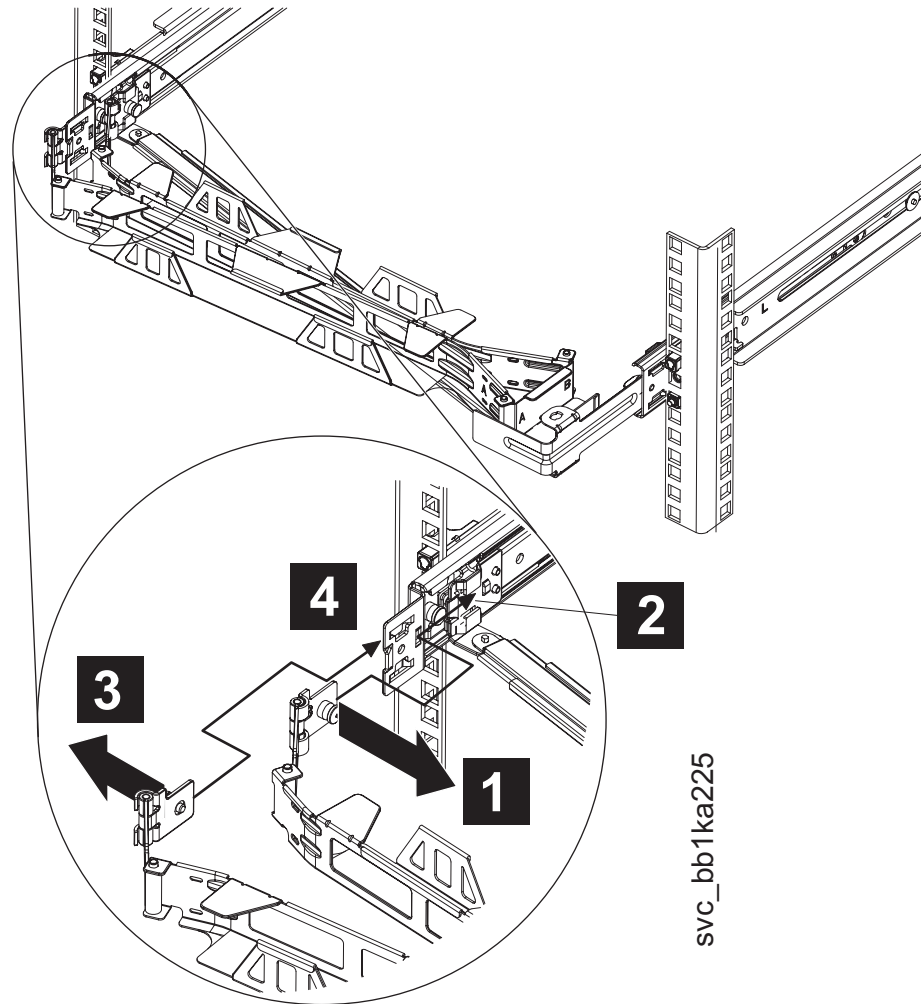

Figure 28. SAN Volume Controller 2145-CF8 cable-management arm on the support arm
- a. Pull out the cable-management arm pin, as shown by **1** in Figure 28 on page 29, then slide the cable-management arm tab **2** into the slot on the inside of the slide rail.